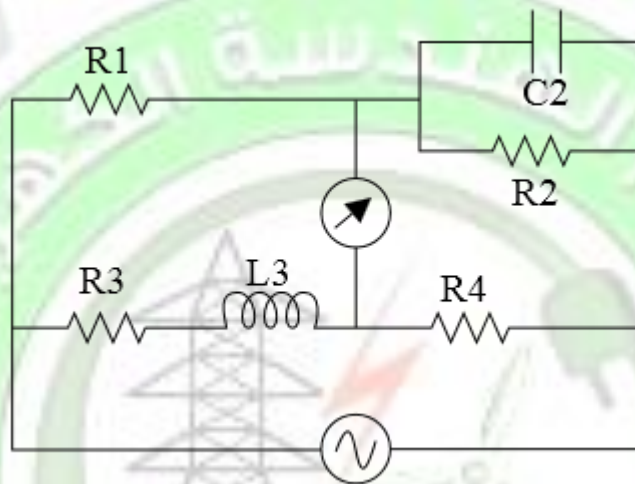

Fig. 8
- 1- Wire the circuit as shown in Fig 8.